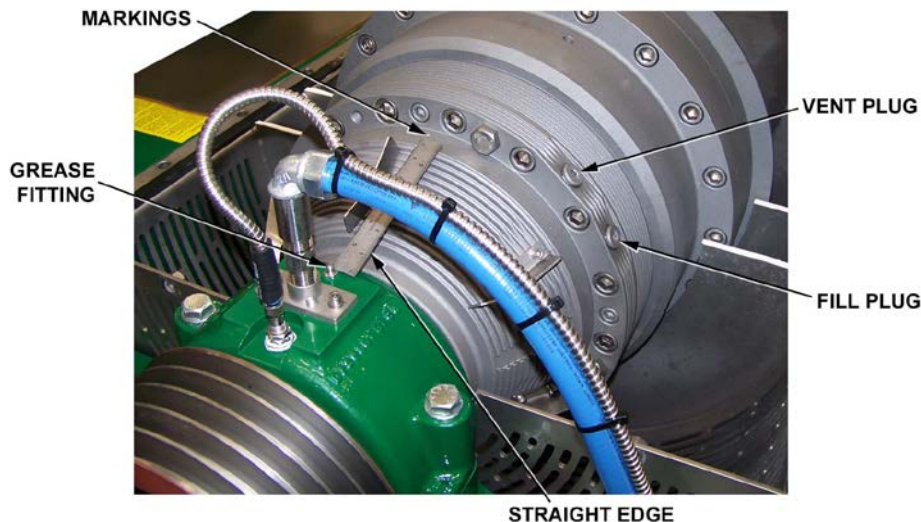

Figure 5-1. Gearbox Oil Level Check
4. Rotate gearbox until the housing marks are at top dead center (Figure 5-1).